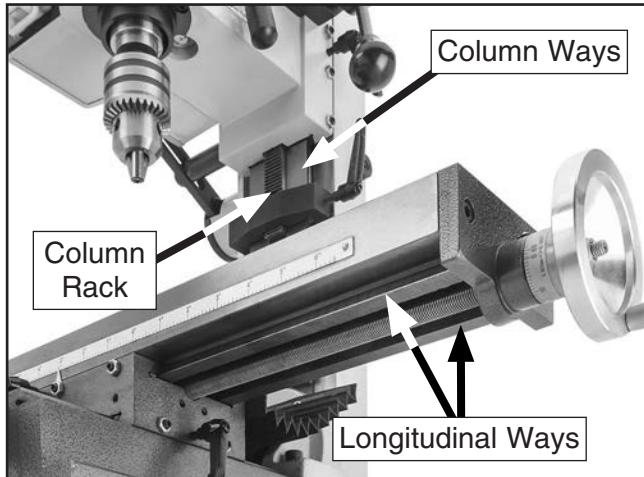

Figure 34. Location of column and longitudinal ways.
1. Move headstock down to gain full access to column rack (see **Figure 34 on Page 30**).
Regular lubrication will ensure the mill/drill performs at its highest potential. Regularly wipe table and column ways with recommended lubrication, then move components back and forth several times to ensure smooth movements (see **Figures 34–35**).